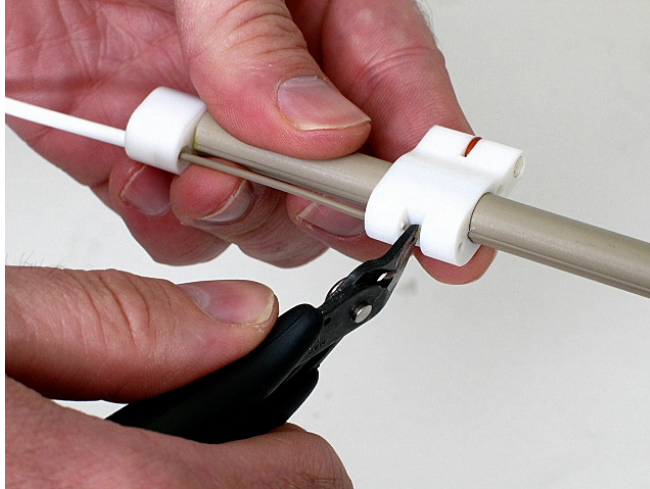

Figure 1. Cutting the Peek Tubing.
3. On the slider, cut the peek tubing in the exposed opening (Figure 1).